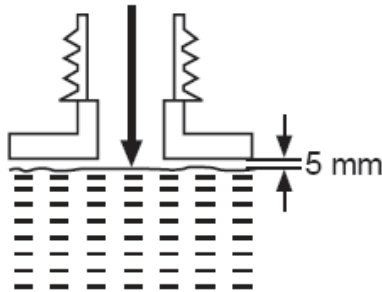

Fig. 14
3. Fill suitable lubricant into the tank using a funnel fitted with a filter to avoid debris entering the tank. Do not overfill and leave approximately 5 mm of space between the top of the oil and the inside edge of the tank to allow for expansion (Fig. 14).